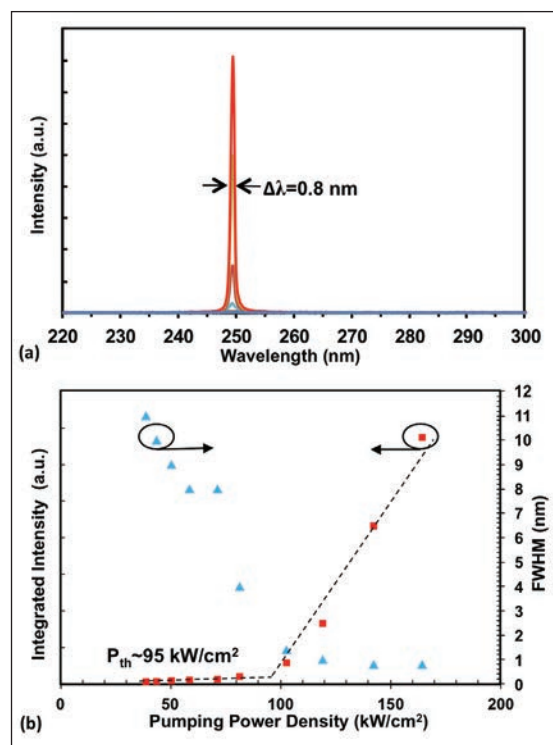

Figure 3. (a) Laser emission spectra and (b) spectral integrated intensity and linewidth of the 249 nm laser versus pumping power, using 193 nm excitation.
We formed a 249 nm laser using laser scribing that had a threshold of 95 kW/cm^2 (see Figure 3). We also produced a 256 nm laser, using hand scribing, that had a threshold 61 kW/cm^2 (see Figure 4). Both these thresholds are low values for this spectral range. The smoother facets resulting from laser scribing produced a higher slope efficiency and smaller linewidth. For both spectra, stimulated transverse-electric polarised emission dominated optical output.
Figure 3. (a) The structure and band diagram of a blocked intermediate-band (BIB) device with the intermediate band (IB) disconnected from the contacts. Transitions generating electron-hole pairs utilizing the IB are denoted as $h\nu_1$ and $h\nu_2$. The transitions from the valence band (VB) to the conduction band (CB) are represented by $h\nu_3$. (b) The structure and the band diagram of a UIB device with the IB connected to the backside contact.
To demonstrate the importance of this pre-requisite, we have produced a pair of devices by MOCVD. The first has a blocked intermediate band, created by incorporating AlGaAs blocking layers on the surface and substrate sides (see Figure 3 (a)). The control, which highlights the pitfall of failing to isolate the intermediate band from the charge collecting contacts, has the intermediate band connected to the substrate side of the device (see Figure 3 (b)).
Figure 5. Electroluminescence spectra of the blocked intermediate band (BIB) structure as shown in Figure 3 (a) under forward (green) and reverse (yellow) bias. The electroluminescence of the reference unblocked intermediate band (UIB) structure is also shown (blue). The energy band diagram of the BIB structure under forward and reverse bias is also shown.